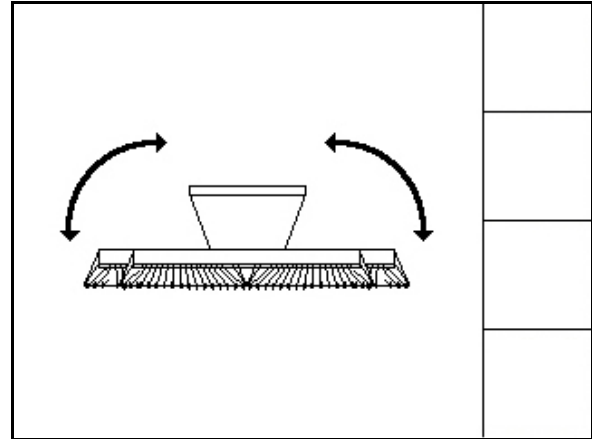

Fig. 56
-  Change to Folding submenu (Fig. 56).